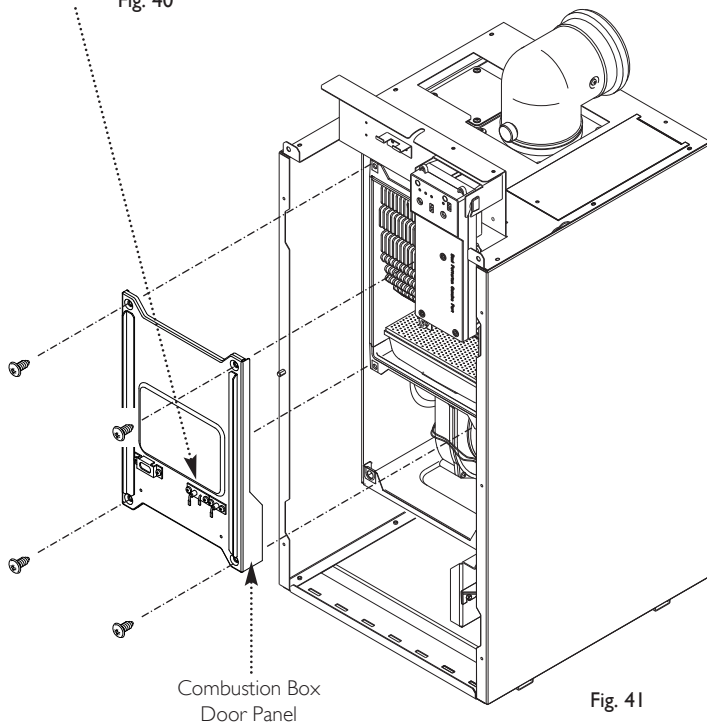

Fig. 41
5. Undo the four screws securing the combustion box door and remove the door (Fig. 41).